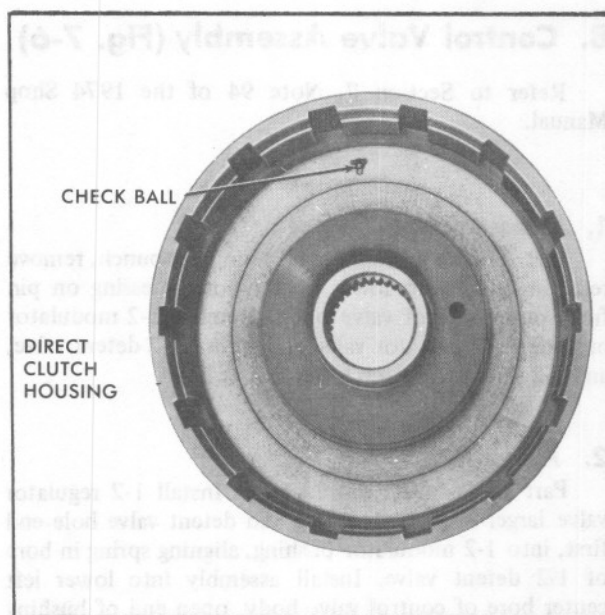

Fig. 7-3 Direct Clutch Housing
**CAUTION:** Production built transmissions now use a direct clutch housing with a check ball (See Fig. 7-3). If the housing requires replacement and the replacement housing does not contain a check ball, replace the direct clutch piston with the service piston which has a check ball. **EITHER THE DIRECT CLUTCH HOUSING AND/OR THE PISTON MUST CONTAIN A CHECK BALL.**
**CAUTION:** 1975 transmissions now use a direct clutch housing with a check ball (See Fig. 7-3). If the housing requires replacement and the replacement housing does not contain a check ball, replace the direct clutch piston with the service piston which has a check ball. **EITHER THE DIRECT CLUTCH HOUSING AND/OR THE PISTON MUST CONTAIN A CHECK BALL.**